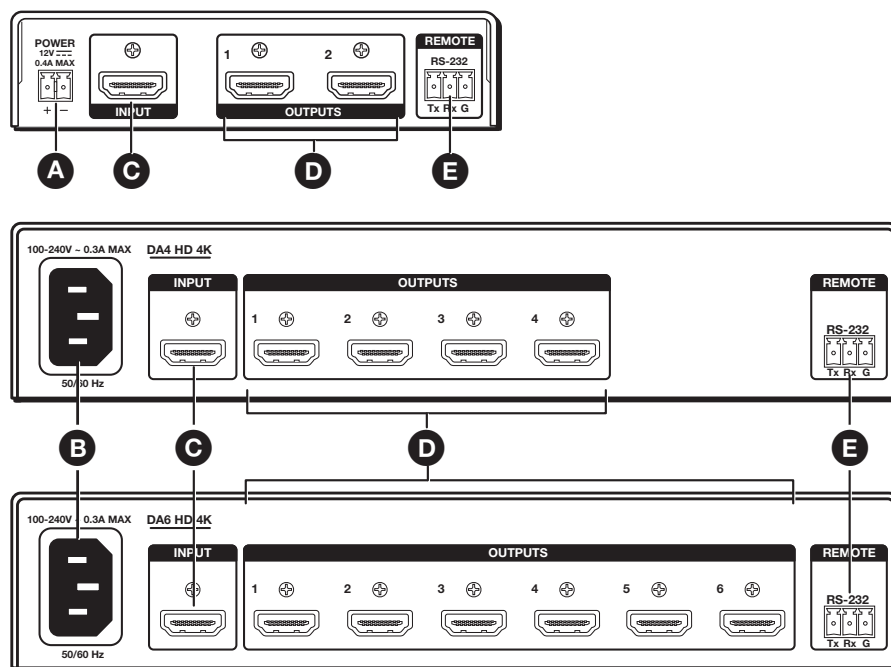
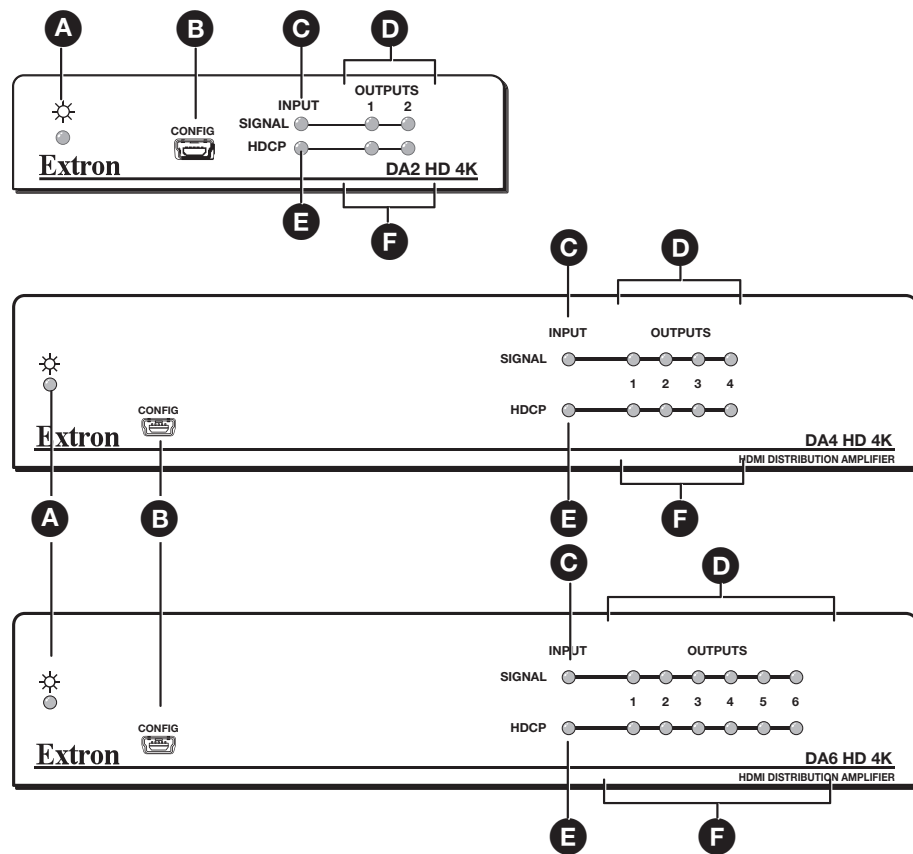

Figure 2. Rear Panel Connectors
Figure 7. Front Panel Features
- A Power supply connector** — connect the provided 12 VDC, 1.0 A power supply to the rear panel power supply socket (see **figure 2** on the previous page).
- B IEC cable connector** — use the provided female IEC cable to connect the female IEC connector to a 100-240 VAC (50 or 60 Hz) power source (see **figure 2** on page 5).
- C HDMI input connector** — use HDMI cable to connect the input source to the rear panel female HDMI connector (see **figure 2, C** on page 5).
- D HDMI output connectors** — use a UHD 4K cable to connect up to six output displays to the female HDMI sockets on the rear panel (see figure 2, **D** on page 5).
- You can connect the computer to either the rear panel 3-pole RS-232 port (see **figure 2, E** on page 5) or the front panel USB port (see **figure 7, B** on page 13) of the distribution amplifier.
- A Power status LED** — Lights green when power is applied to the unit (see figure 7 on the previous page).